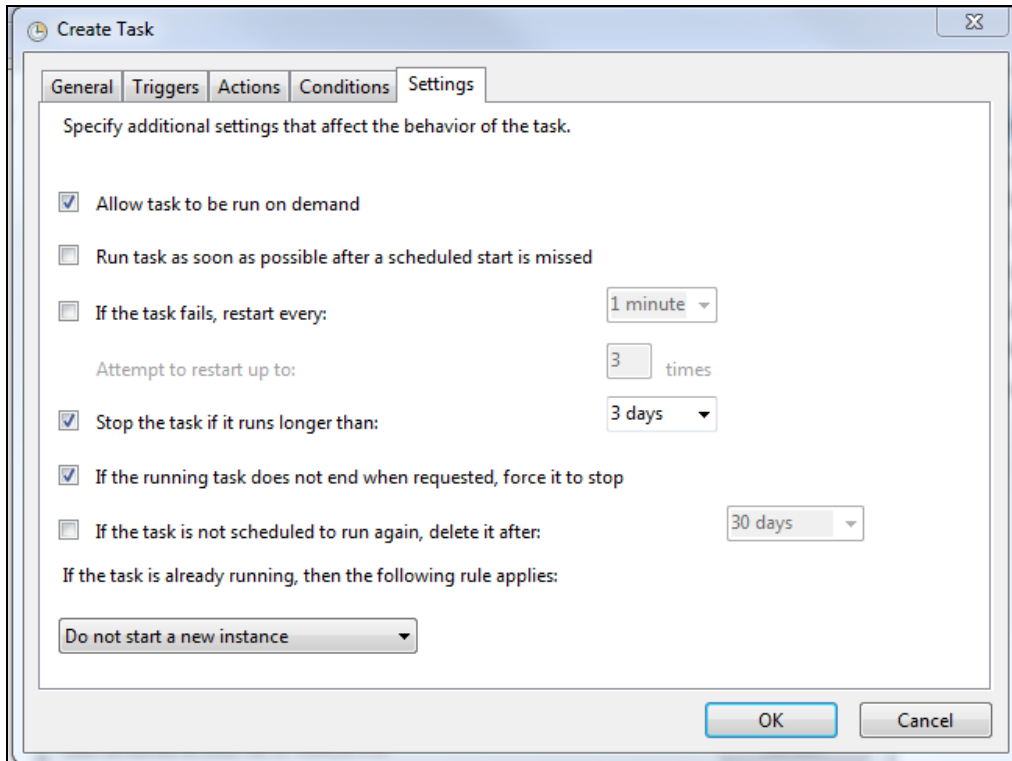

Figure 16: Creating a Task - Settings
- i. Under the “Settings” tab, deselect “Stop the task if it runs longer than 3 days” (Figure 16).